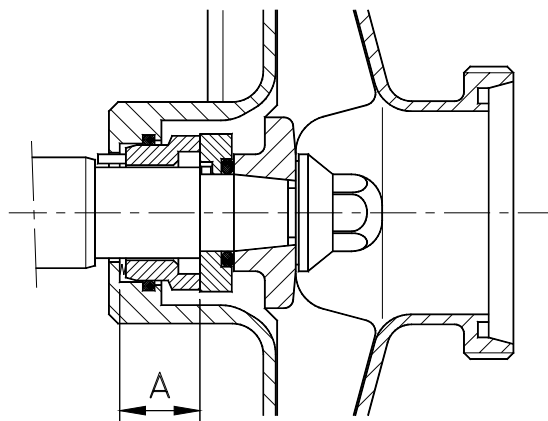

Figure 8.1: Single mechanical seal
- Fit the pump cover (03) on the lantern (04). The stationary part of the mechanical seal (08A) needs to be inserted first into its location in the cover. Check the position of the pivot of the stationary part of the seal.
- Slide the rotating part of the mechanical seal (08) over the shaft; check that the shaft's dragging pivot encases in its position. See figure 8.1.